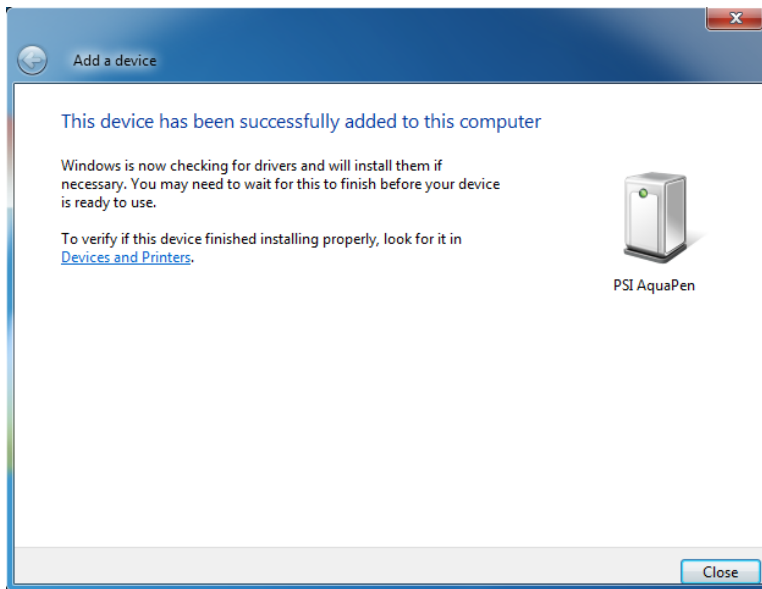

Fig. 15 Bluetooth - pairing completion.
- Click: Close (Fig. 15) to finish the Bluetooth pairing process. The Bluetooth pairing is now complete, and the next step is to open the FluorPen software (included on the delivered USB flash disk). For detailed information on using the FluorPen software, refer to Chapter 9.